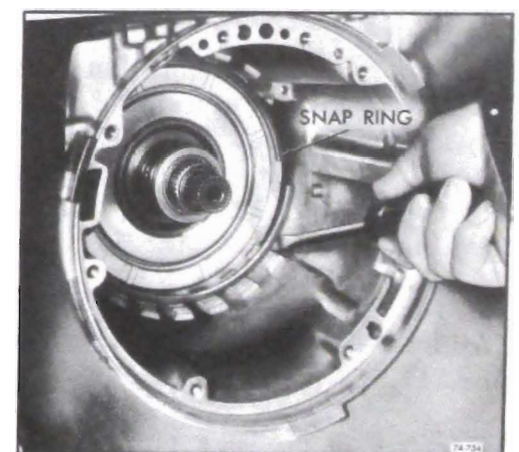

Figure 76-754
10. Install center support to case retaining snap ring with bevel side up and locating gap adjacent to band anchor pin. Make certain ring is properly seated in case. See Figure 76-754.